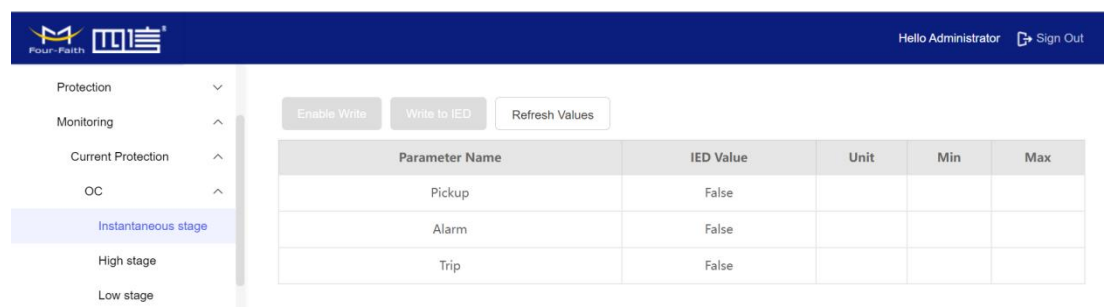

Figure 43
- 5) Click the “Monitoring” and status window will popup. (Figure 43)